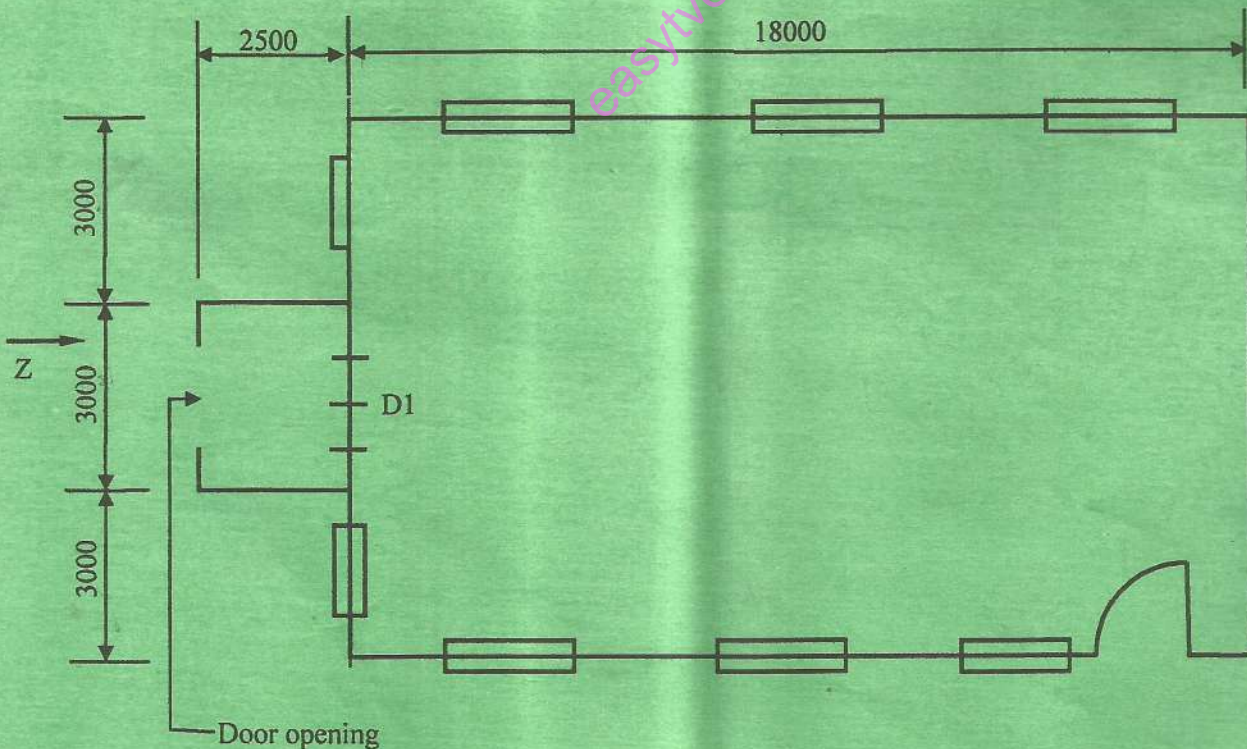

Fig. 6: Line Diagram of a Church Hall
8. **Figure 6** shows a line diagram of a church hall. To a scale of 1:100 and 1:50;